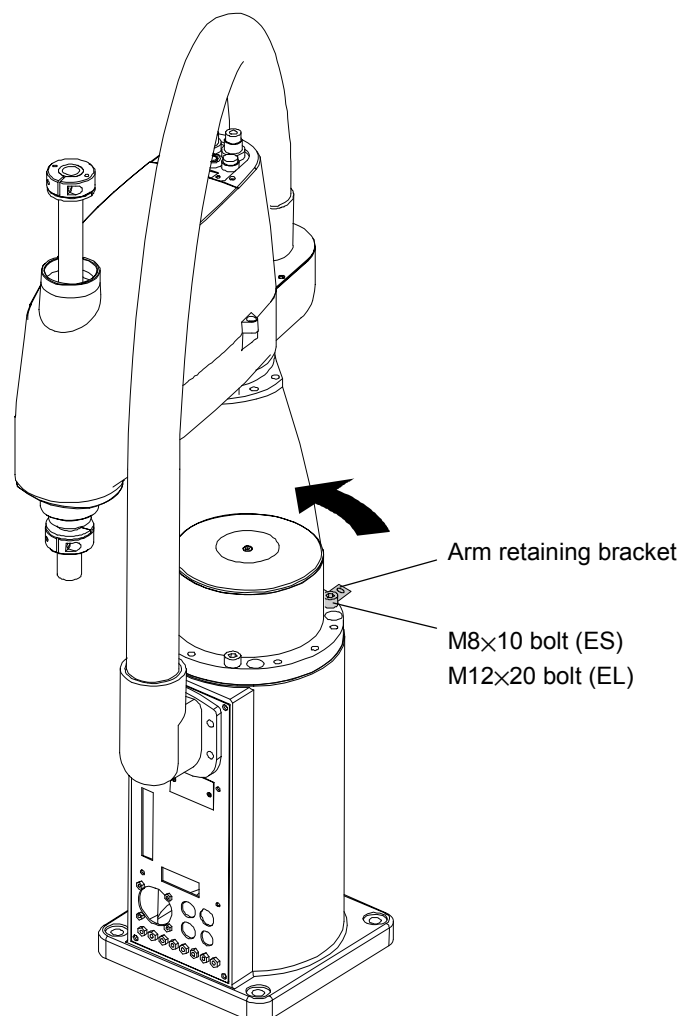

Figure 6. Removing the arm retaining bracket
- (3) Push Arm #1 slowly in the direction shown by the arrow in Figure 6. Remove the arm retaining bracket and bolt (ES: M8×10, EL: M12×20) from the base. If they are not removed, the motion range of Joint #1 will be limited.